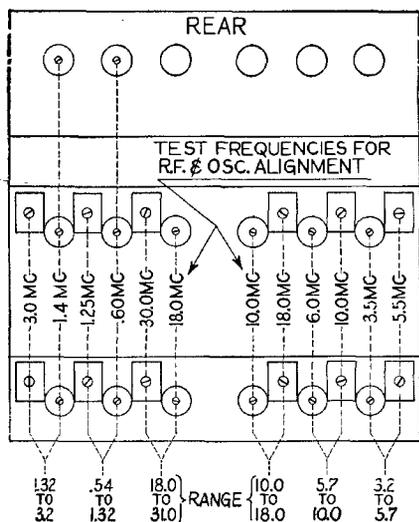

FIG. 10—Chart for R.F. alignment.
R. F. AND H. F. OSCILLATOR: Before attempting to realign these circuits the following instructions should be read through very carefully. As in the case of the I. F. amplifier, these circuits have also been accurately aligned during final inspection and great care has been taken in their design to insure stability and permanence of adjustment. Therefore, they should not be disturbed unless it is absolutely certain that readjustment is necessary. Even in that case, only very slight alterations will be necessary to restore the receiver to its original efficiency. In general, a small fraction of a turn on either inductance adjuster or trimmer condenser will suffice. These adjustments, together with their respective test frequencies, are clearly shown on the chart below (Fig. 10). On the bands from 3.2 mc. to 31 mc. it is extremely important to have the band spread dial set at 200, since that is the setting at which the main dial has been calibrated. Naturally, the alignment of the receiver cannot be more accurate than the source of the test signal. The aligning during final inspection at the factory is accomplished with special test oscillators which are frequently compared with standard frequency crystals. The front row of adjustments shown on the chart in Fig. 10, control the high frequency oscillator circuits and consequently the dial calibration. These adjustments should be disturbed *only* if the calibration of the main dial (with band spread dial at 200) is known to be off. As clearly indicated in the diagram, the inductance should be adjusted at the low test frequency in each band and the trimmer capacitor at the high frequency. These adjustments mutually affect each other, therefore, if any considerable change is made at one end of a band the other end of the same band must be readjusted. This procedure must be repeated until no further readjustment at either end is necessary.